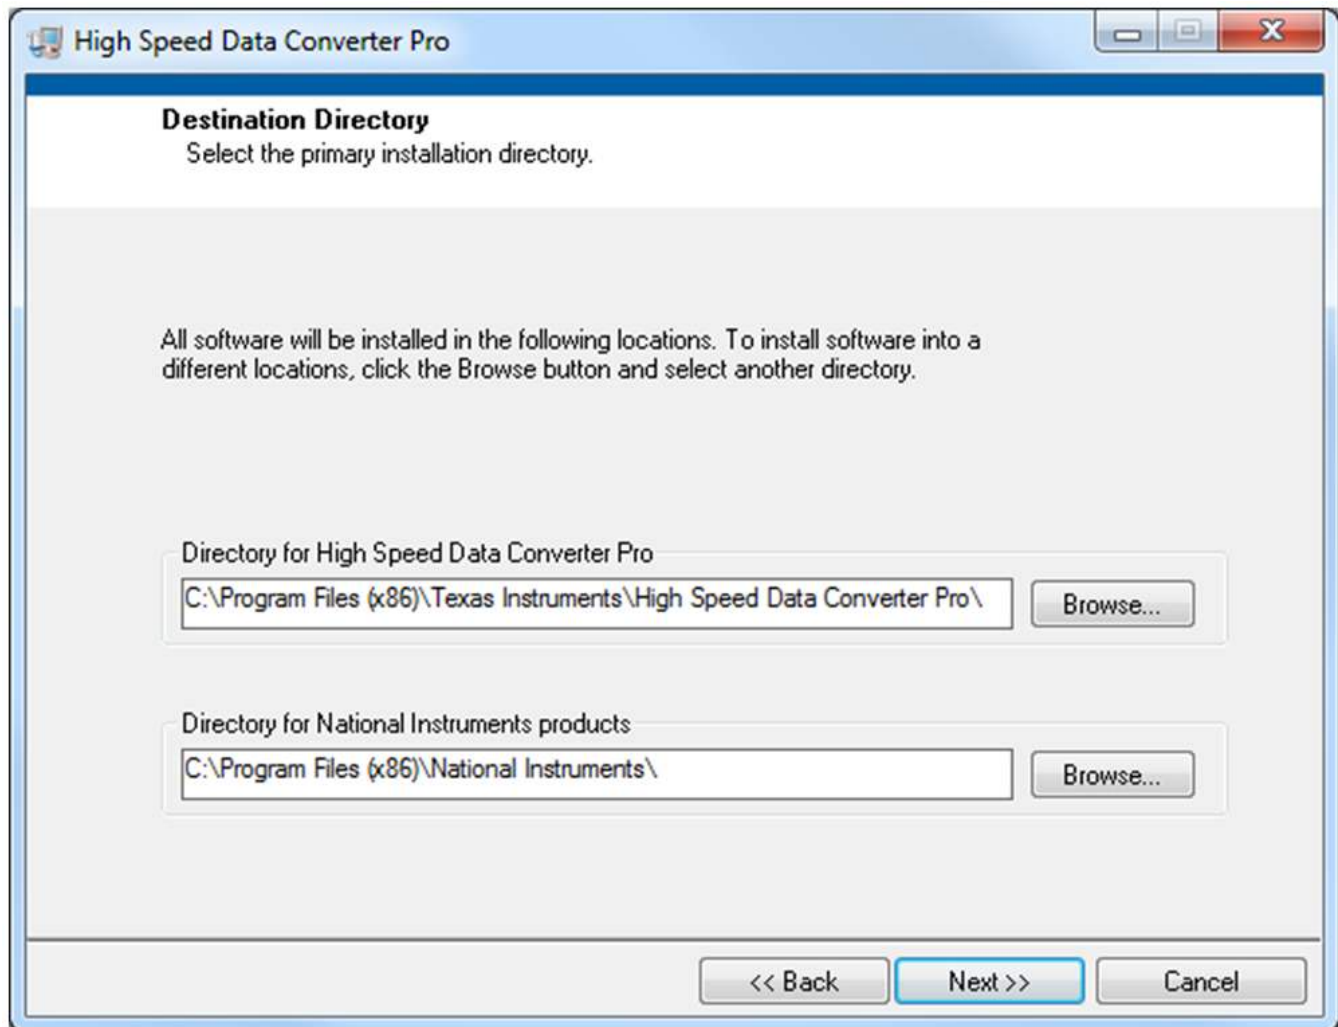

Figure 22. HSDCPro Install (Install Directory)
- Leave the destination directories as the default location, for the TSW1400GUI installation and press the NEXT button as shown in Figure 22.